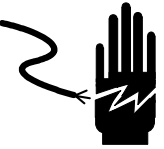

**Figure 8-3**
6. Feed the belt behind the first conveyor drive roller (item 24 in Figure 8-3) near one side.
5. Using the access holes in the cross member, remove the bolts securing the motor mount (item 28 in Figure 8-3) to the cross member using a 6mm standard Allen Wrench. The bolts are installed very tight and it may be necessary to use a vise grip to loosen them. Be careful not to lose the bolts in the crossmember. Exercise care to avoid damaging the photoeyes and the mirror mounted on the motor mount.
6. Loosen nuts holding the motor to the isolator mount (item 31 in Figure 8-3).
8. Loosen the setscrews on the drive gear (item 12 in Figure 8-3) and remove the gear from the shaft.
3. Remove the screw holding the gear (item 11 in Figure 8-3) in place.